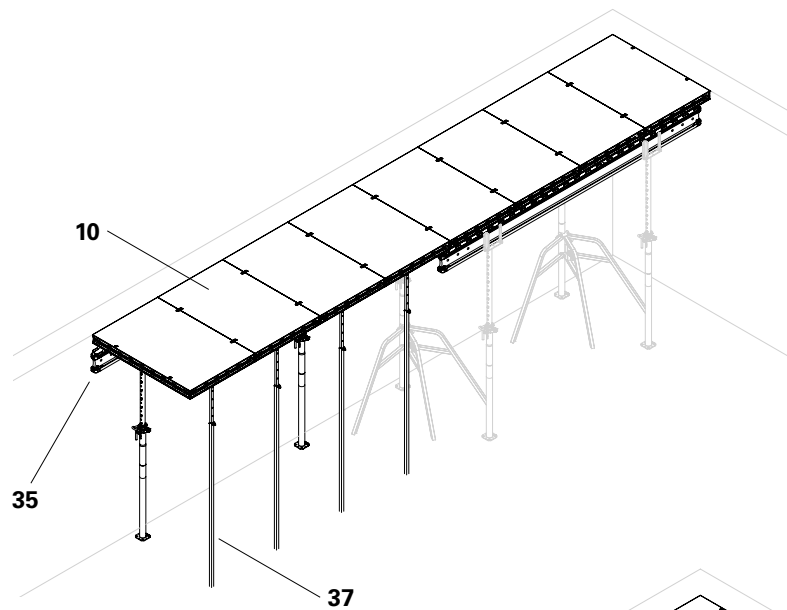

Fig. D6.19
10. Repeat points 3 and 4 for the neighbouring DUO DP panels (**10**) until the girder is filled with DP panels (**10**). DP panels (**10**) that no longer fit onto the current girder are placed on the next girder. (Fig. D6.19)